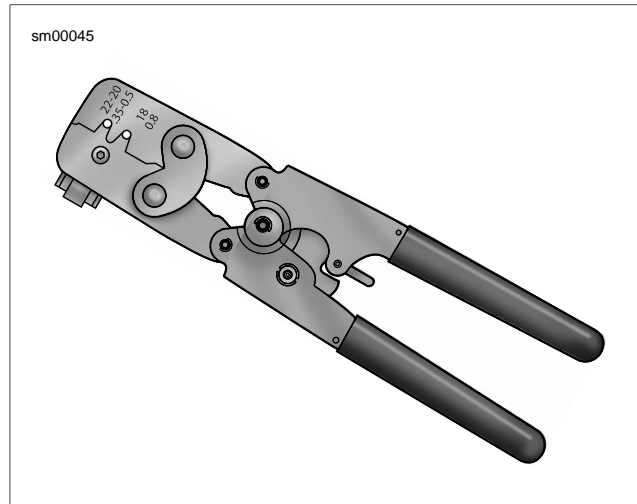

Figure A-52. Packard Micro 64 Terminal Crimper (HD-45929)
3. Locate pin hole (2) between terminals on mating end of connector.
4. See Figure A-52. Obtain the PACKARD MICRO-64 TERMINAL REMOVER (Part No. HD-45928).